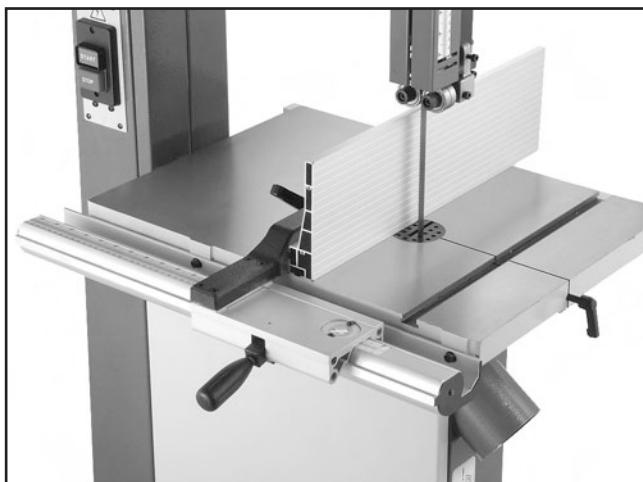

Figure 26. Correctly installed fence.
8. Pull the fence handle up and place the fence assembly on the fixed rail as shown in **Figure 26**.